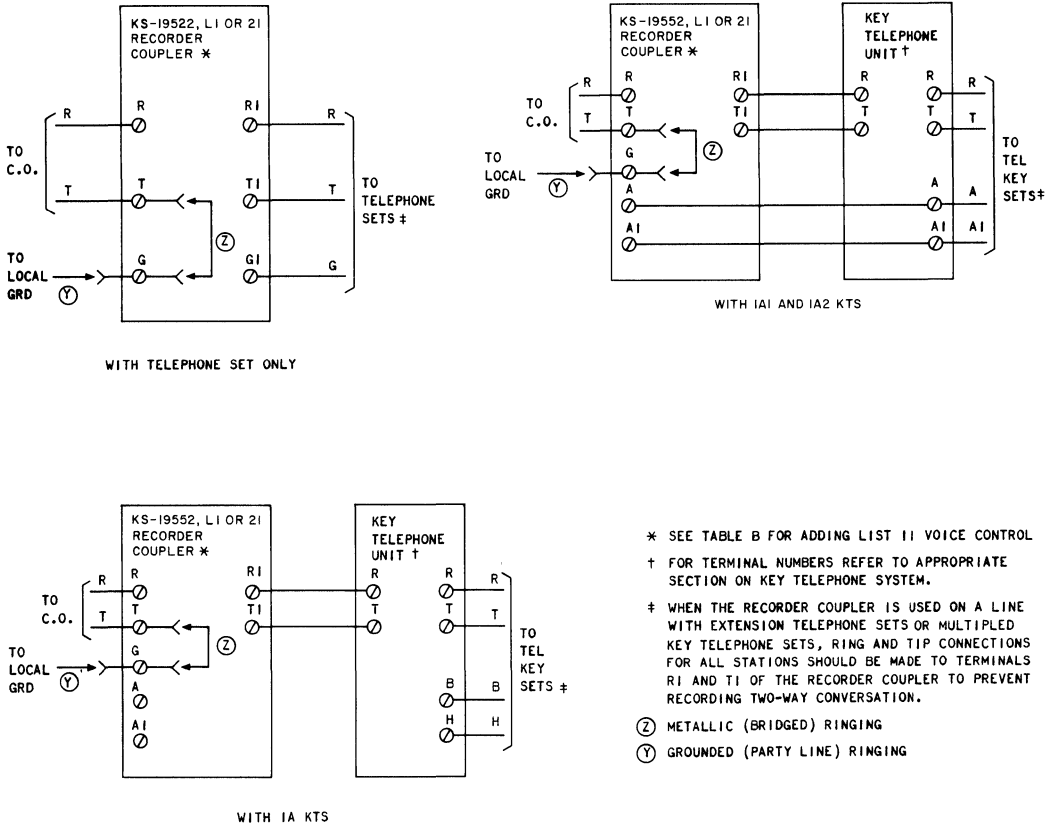

Fig. 11—KS-19522 Recorder Coupler Connections
**6.02** Fig. 11 shows the connections for the recorder coupler for various telephone set applications. Fig. 10 shows connections for customer's equipment.
- Add Fig. 11—Recorder Coupler Connections to CP equipment